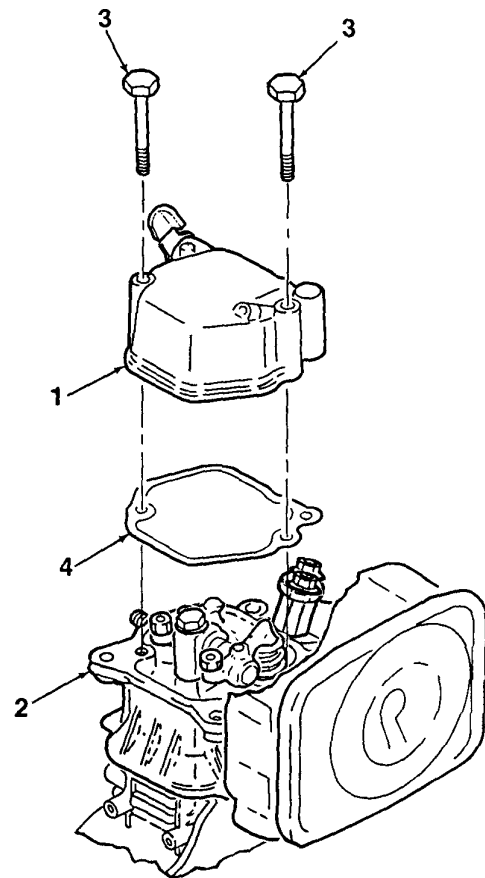

Figure 3-5. Head Cover Removal
Remove head cover (1, Figure 3-5) from cylinder head (2) by removing bolts (3). Remove cover gasket (4) only if replacement is required.